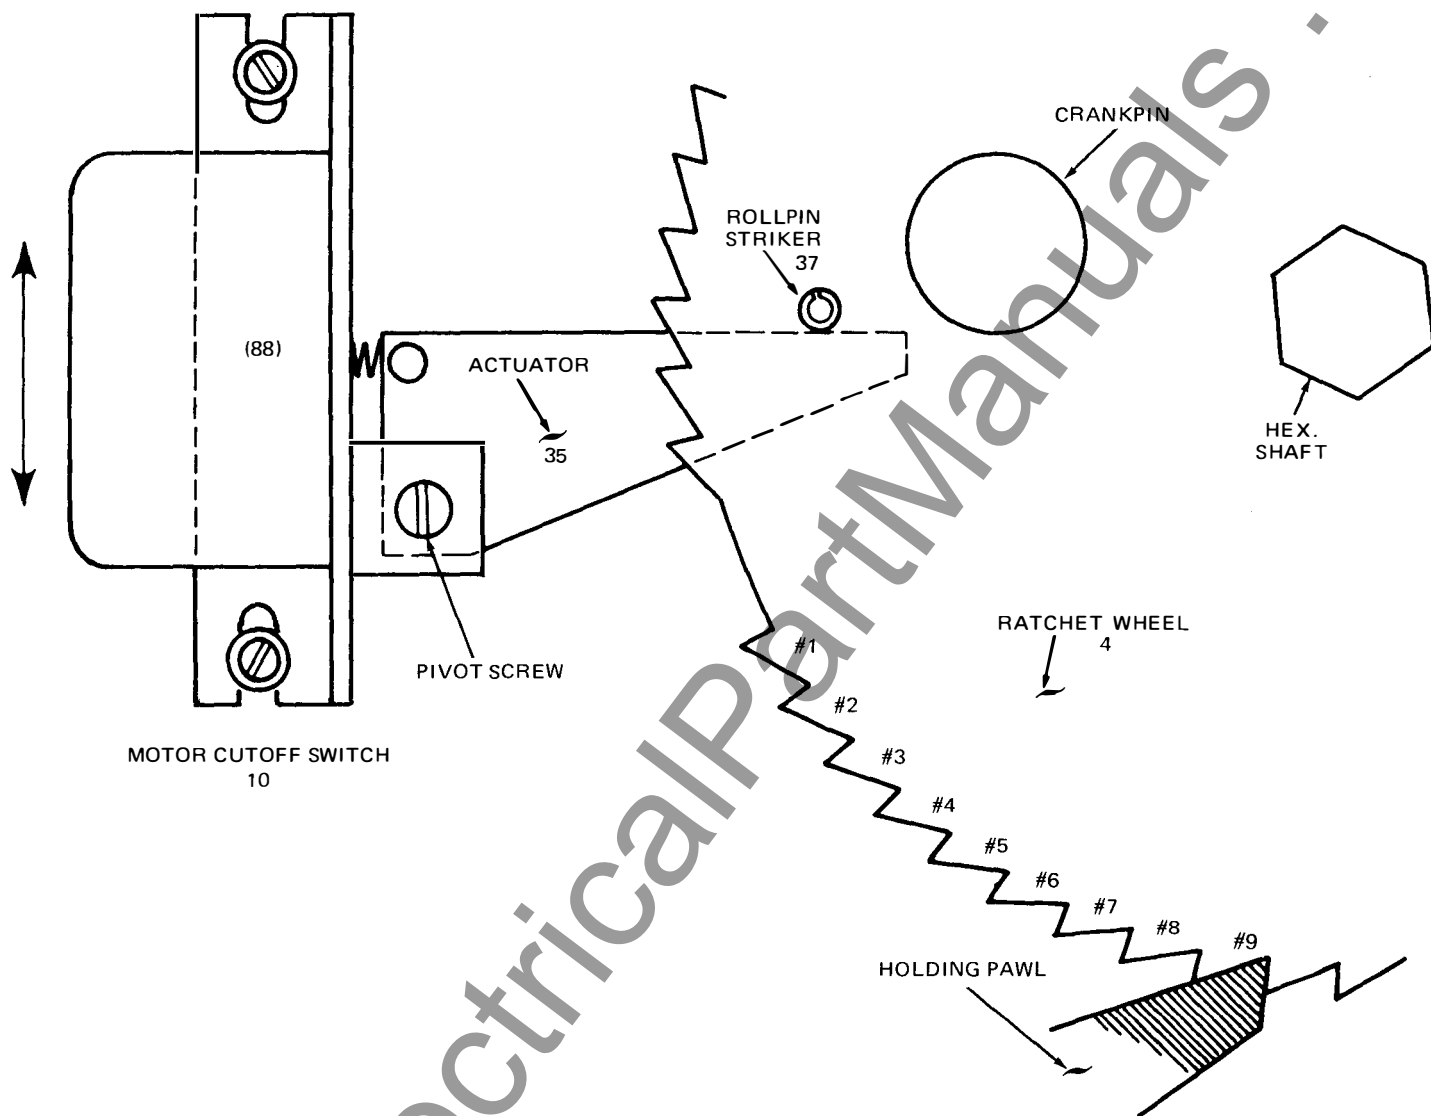

Fig. 15 — Motor Cutoff Switch
**Motor Cutoff Switch** — The MCO motor control switch assembly (Fig. 15) is factory adjusted. If it should become inoperative, entire unit must be removed and inspected for contact wear. Replacement may be necessary.
Advance ratchet and cam assemblies to position shown (Fig. 15). The holding pawl must occupy the ninth (9) tooth position on the ratchet as counted counterclockwise from "area" on ratchet periphery which lacks two teeth.